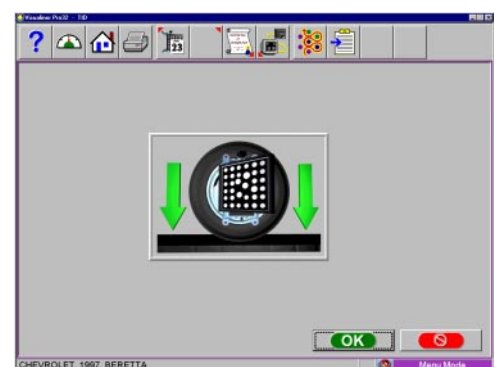

Figure 3-50
11. After the completion of a successful target ID the screen indicates to lower the wheel. (Figure 3-50) This is not necessary if the opposite side target is needing to be ID, click on the <OK> button and select the next target. Lower the wheels after all four targets have been ID'd.